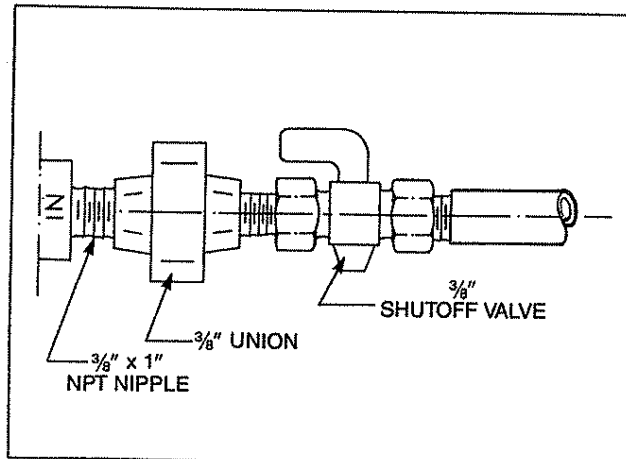
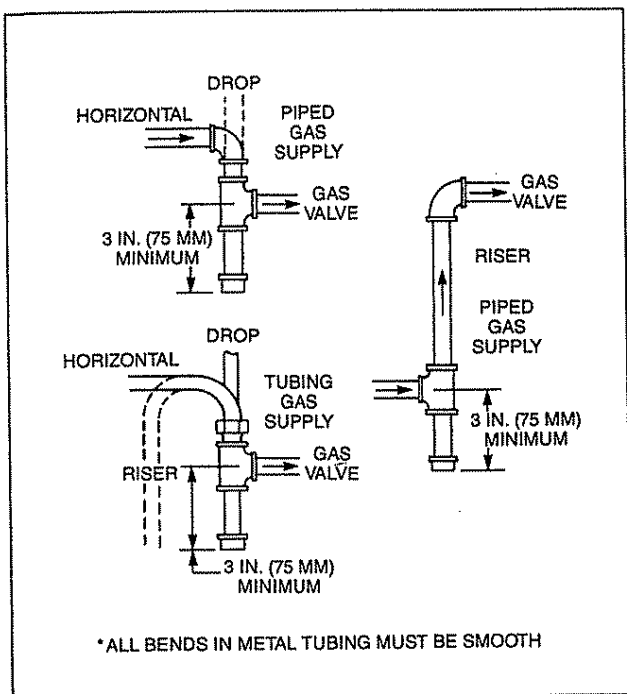

Fig. 5A. Inside fireplace piping.
Fig. 6. Sediment trap installation.
Step 4. Connect a $\frac{3}{8}$ " (for pipe runs longer than 30 feet, use $\frac{1}{2}$ " line) N.P.T. black iron gas line (Do Not Use Cast Iron Pipe) $\frac{1}{4}$ " above the floor surface (if fireplace will be resting on the floor) and $\frac{63}{16}$ " behind the face of the fireplace. If the pipe is going to be connected on the left side of the fireplace, route the pipe above the floor surface and behind the face of the fireplace. Connect the pipe to the fireplace piping. See Fig. 5A for suggested piping inside the fireplace. Use two (2) wrenches: one (1) to hold the gas shutoff valve and the second to attach the gas pipe. Always install the sediment trap. Refer to Fig. 6. for possible configurations.